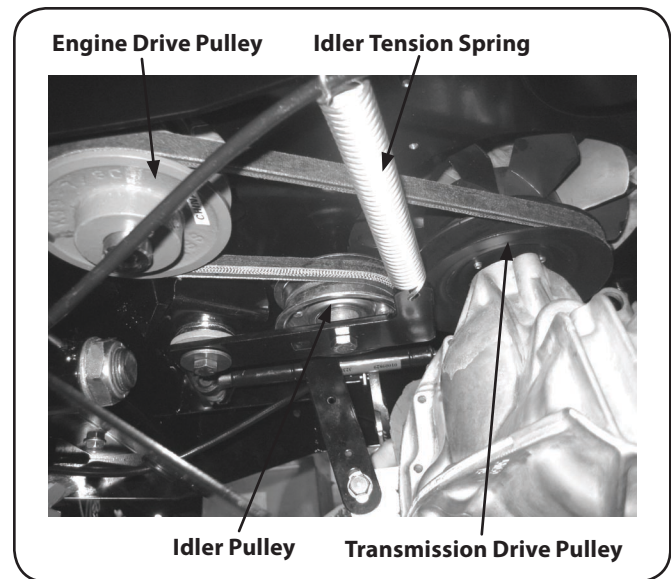

Figure 6-3
2. Access engine drive pulley, idler pulley and belt from the left hand side of the unit. See Fig. 6-3.
3. Release the drive belt idler tension by disconnecting the idler arm tension spring where it is attached to the engine base frame. See Fig. 6-3.
4. Remove the old belt and mount a new belt onto the transmission drive pulley and the engine drive pulley. Install the belt onto the alternator drive pulley, if equipped. See Fig. 6-3.